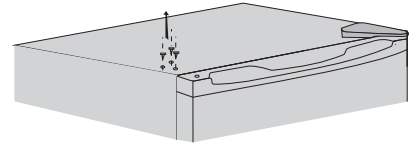

Figure 1
- 1 Remove the plastic hole covers which are located on the top left side of the refrigerator as shown in Figure 1.